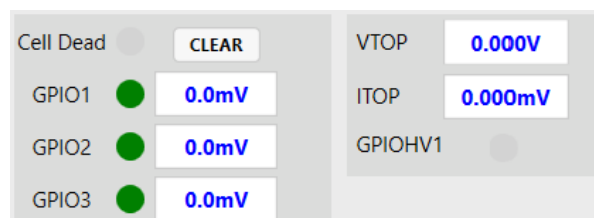

Figure 35: GPIO and VTOP Status Monitor
30. Figure 35 shows the GPIO and VTOP status monitor.